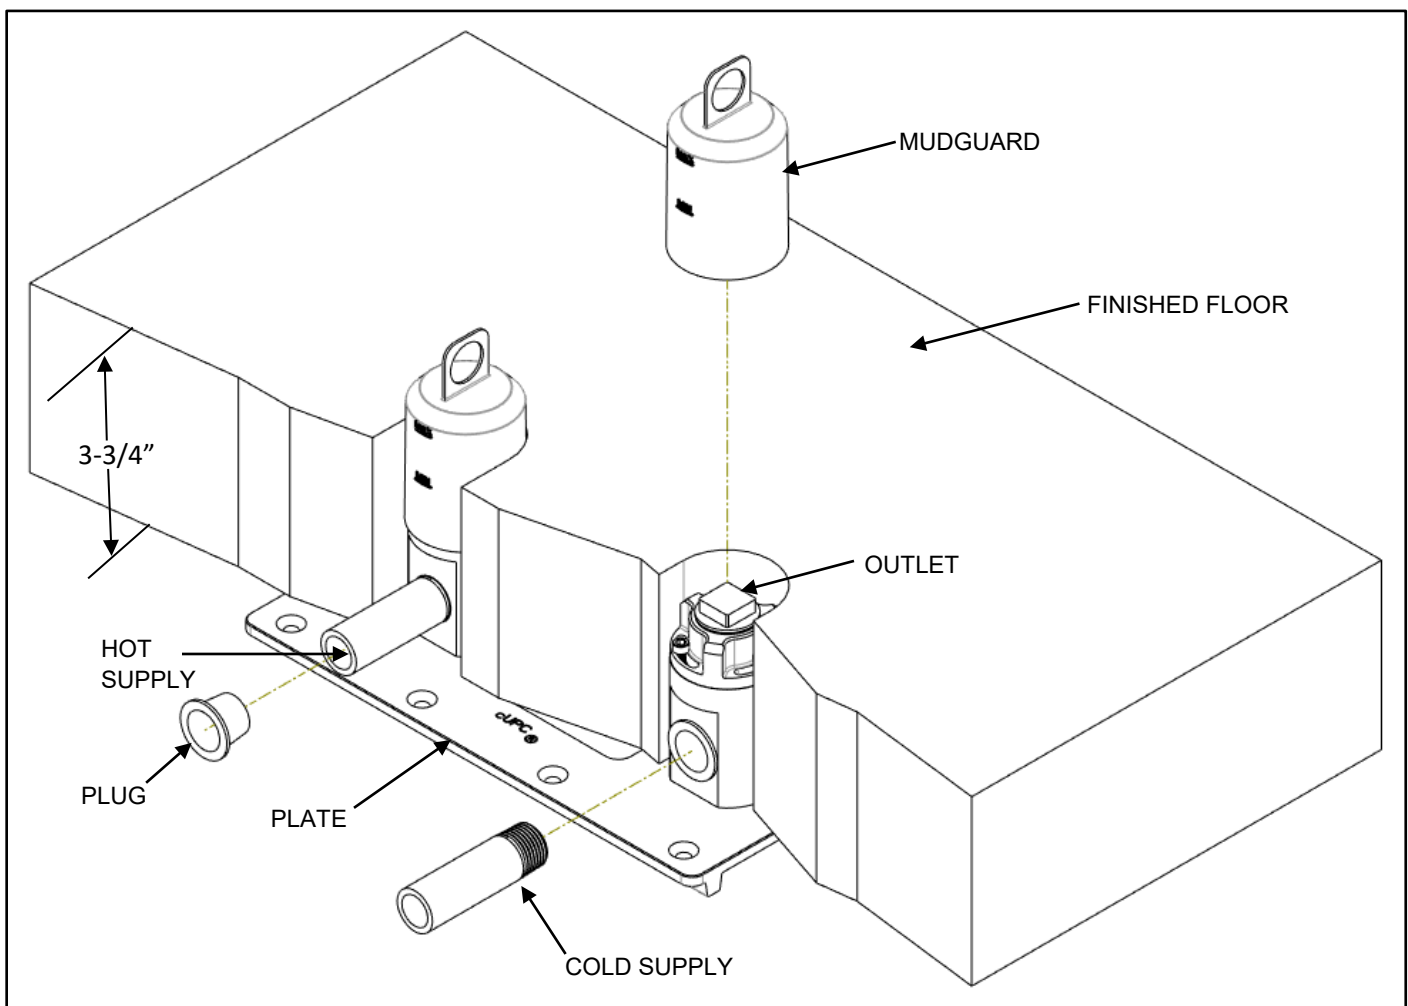

Figure 3: Concrete Floor Installation
1. As shown in **Figure 3**, position the rough so that the top surface of PLATE is approximately 3-3/4" from the FINISHED FLOOR